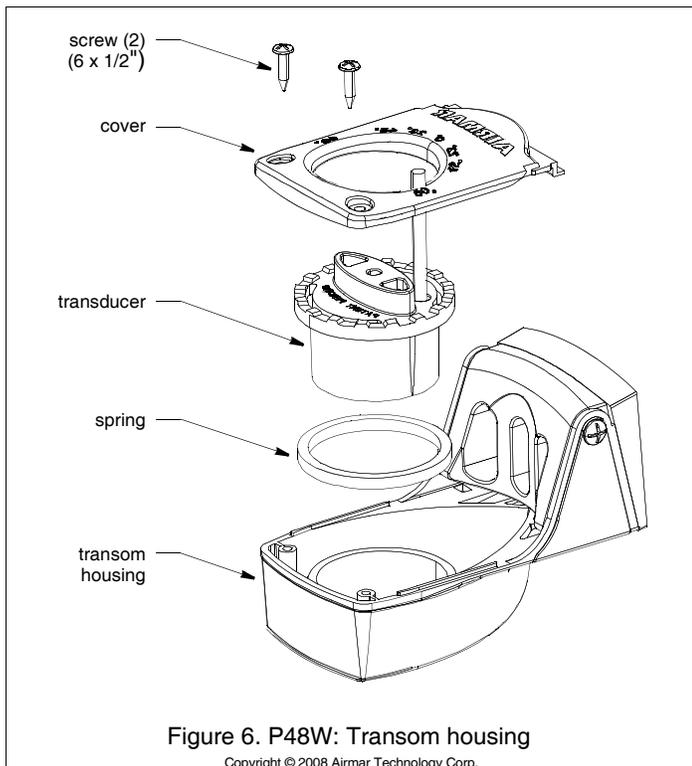

Figure 6. P48W: Transom housing
1. Remove the transducer from the transom housing by first removing the two screws and the cover (Figure 6). Lift out the transducer and the spring.
- Slide the cover over the cable onto the transducer (Figure 6).